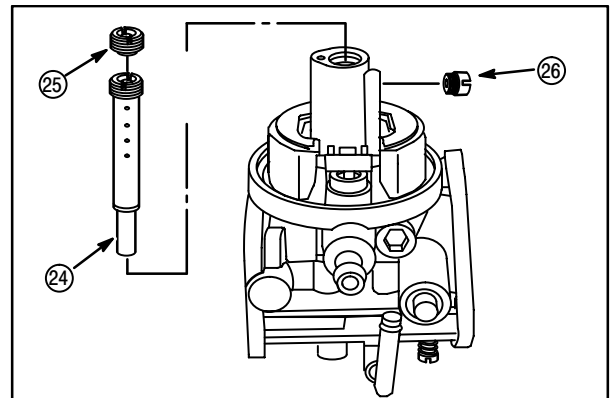

Fig. 56
16. Install emulsion tube (24), **Fig. 56**, using Screwdriver #19062.
17. If carburetor is equipped with anti-afterfire solenoid, install solenoid seat (25).
18. Install fixed main jet (26) using Screwdriver #19061.